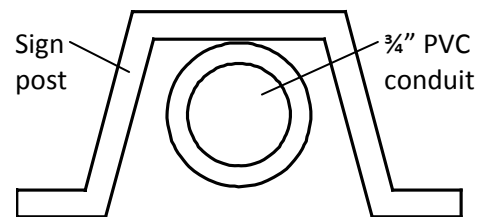
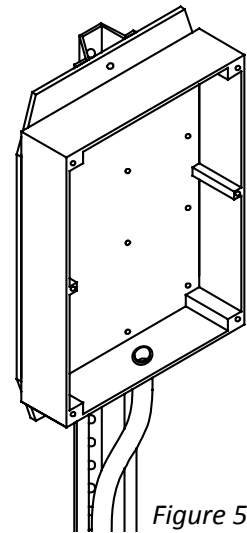

Figure 4
Figure 5
Important: The U-channel must be positioned so that the concave surface is facing the parking spaces as shown in *Figure 4*.
3. Remove the router from the enclosure and secure the enclosure to the sign post using the (2) $\frac{1}{4}$ "-20 x 2 $\frac{1}{2}$ " button head screws and (2) $\frac{1}{4}$ "-20 hex flange locknuts. The top of the mounting flange should screw to the topmost hole on the U-channel sign post. See *Figure 5* on page 8.
4. Run the $\frac{3}{4}$ " PVC conduit from the bottom of the U-channel sign post up to the bottom of the NEMA enclosure. The conduit should be installed along the side of the post facing the parking spaces and go through the void in the U-channel as shown in *Figure 4* to the right and *Figure 5* on page 8.
- 5. Bend the conduit to feed into the PVC adapter on the underside of the gray enclosure as shown in *Figure 5*. Cutting back the conduit and installing an elbow fitting to terminate at the adapter would be an acceptable alternative method.